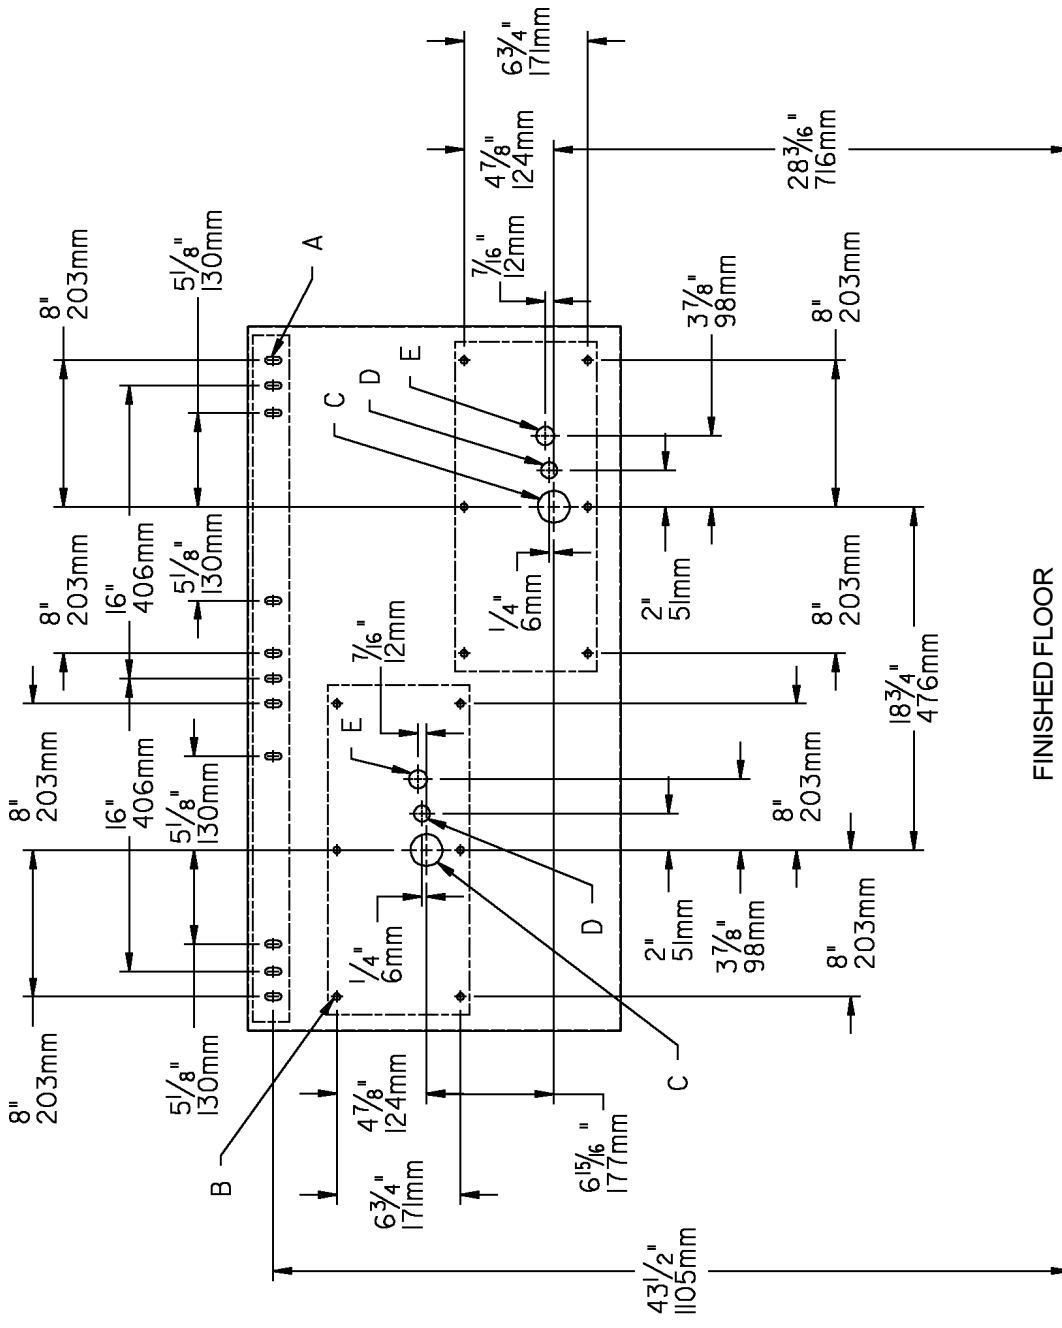

FIG. 3
1. Wall should already be framed for the fountains using dimensions shown in Fig. 3. Shown dimensions pertain to installation location. These dimensions are required for compliance with ANSI Standard A117.1. (and ADA) (Framing shown for reference only).